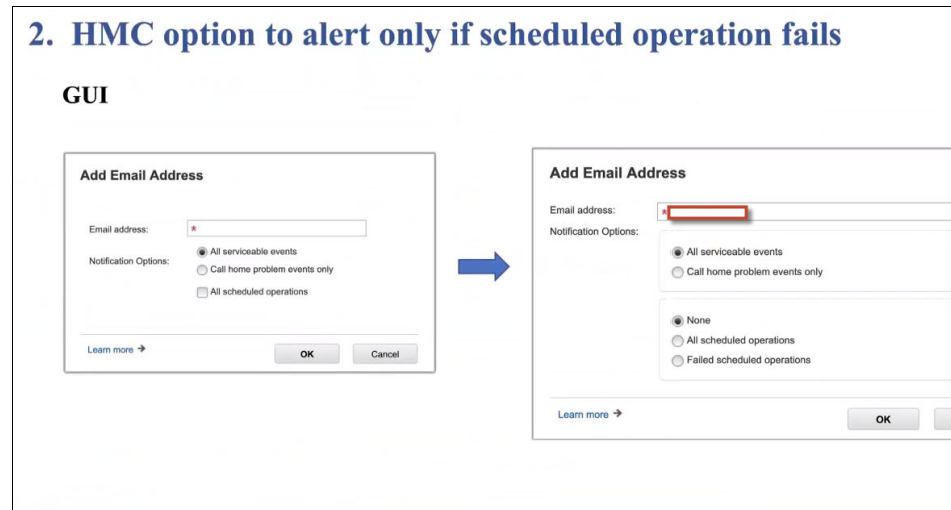

Figure 1-18 HMC alert feature
- Scheduled operation function: In the ESA, a new feature that allows customers to receive message alerts only if scheduled operations fail (see Figure 1-18).